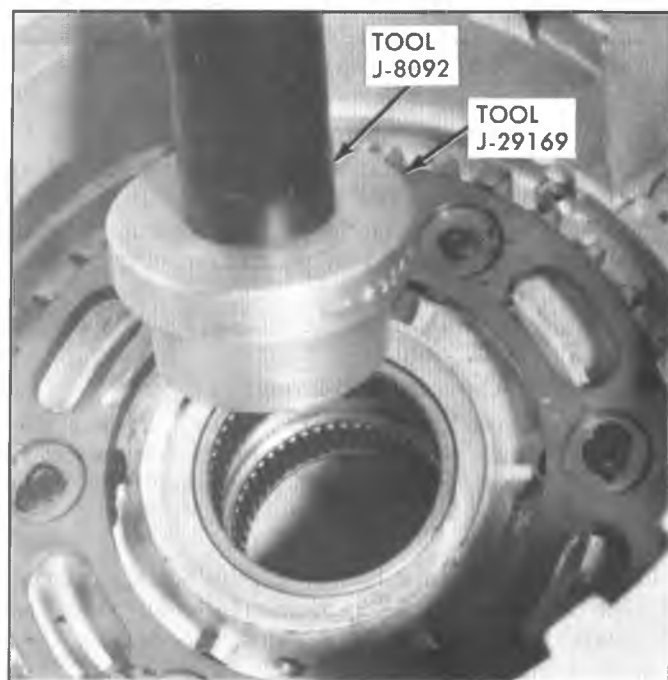

Fig. 7E-24-Input Gear Bearing Installation
22. Install front output shaft rear thrust bearing assembly on front output shaft (Fig. 7E-5). Correct installation sequence is thin race-thrust bearing- thick race.